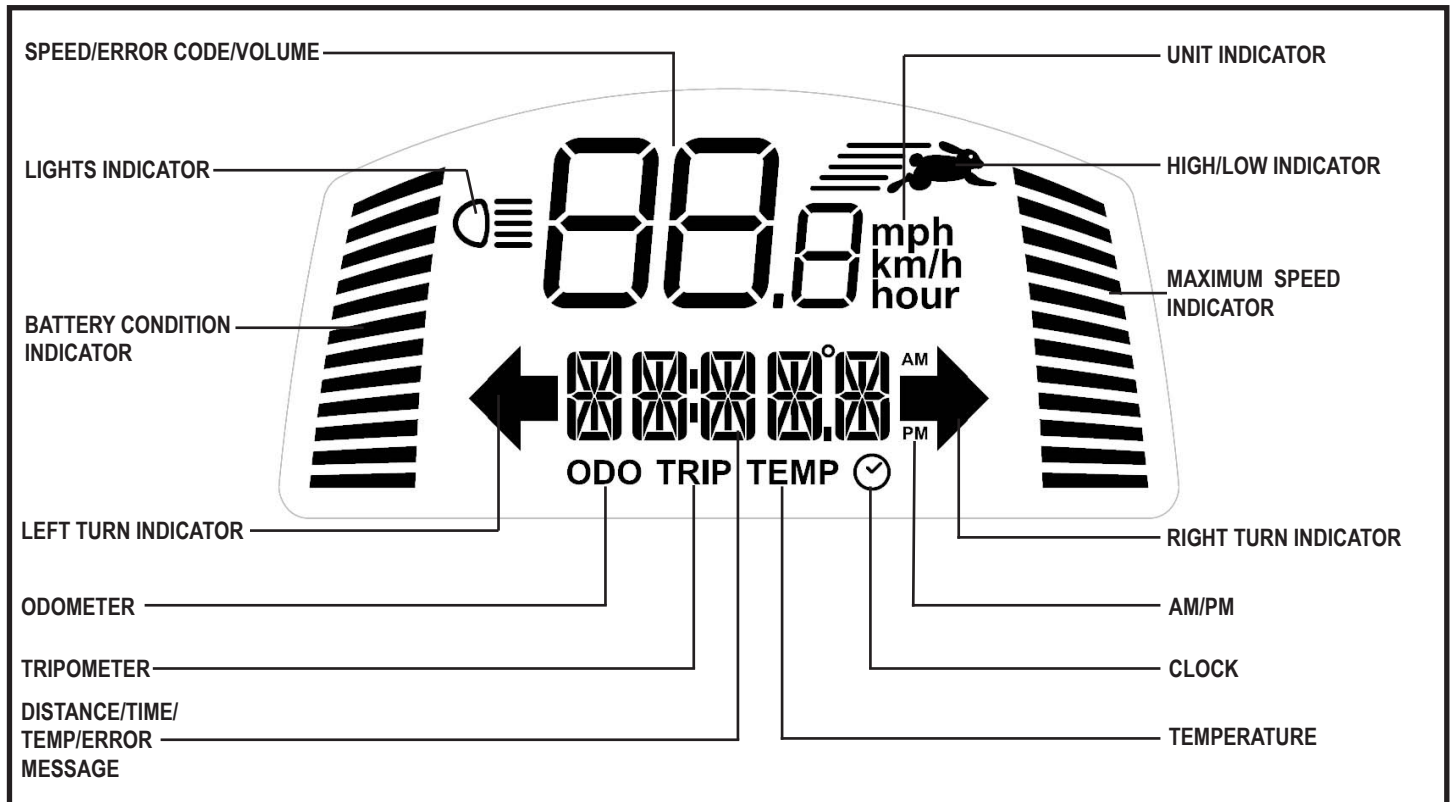

Figure 2. LCD Screen
- Press the **High-Low** button once to set the speed adjustment to high. The High-Low indicator will display on the LCD screen. **See figure 2.** Using this setting in conjunction with the speed adjustment buttons will allow the scooter to achieve speeds up to the maximum preprogrammed speed for the scooter.
These adjustment buttons enable you to pre-select and limit your scooter's speed. This is indicated by the maximum speed indicator on the LCD screen. **See figure 2.**
**NOTE:** *The more bars shown on the maximum speed indicator, the faster your pre-selected maximum speed will be. See figure 2.*
The LCD control panel offers easily intuited feedback information via the LCD screen. **See figure 2.** The LCD screen is also used during the set-up (activation) of the various control panel settings.
The maximum speed indicator displays the maximum speed selected with the speed adjustment buttons. The more bars that are lit, the faster the speed. The maximum scooter speed will be determined by the HIGH-LOW setting, which limits the maximum speed to half when set to LOW. The actual travel speed will be shown in the speed display on the LCD screen. **See figure 2.**